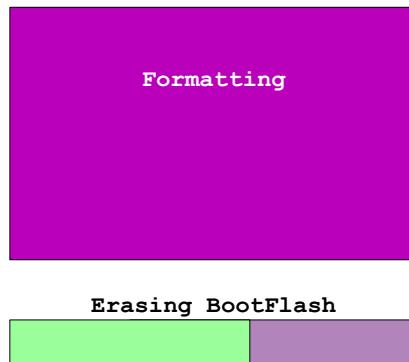
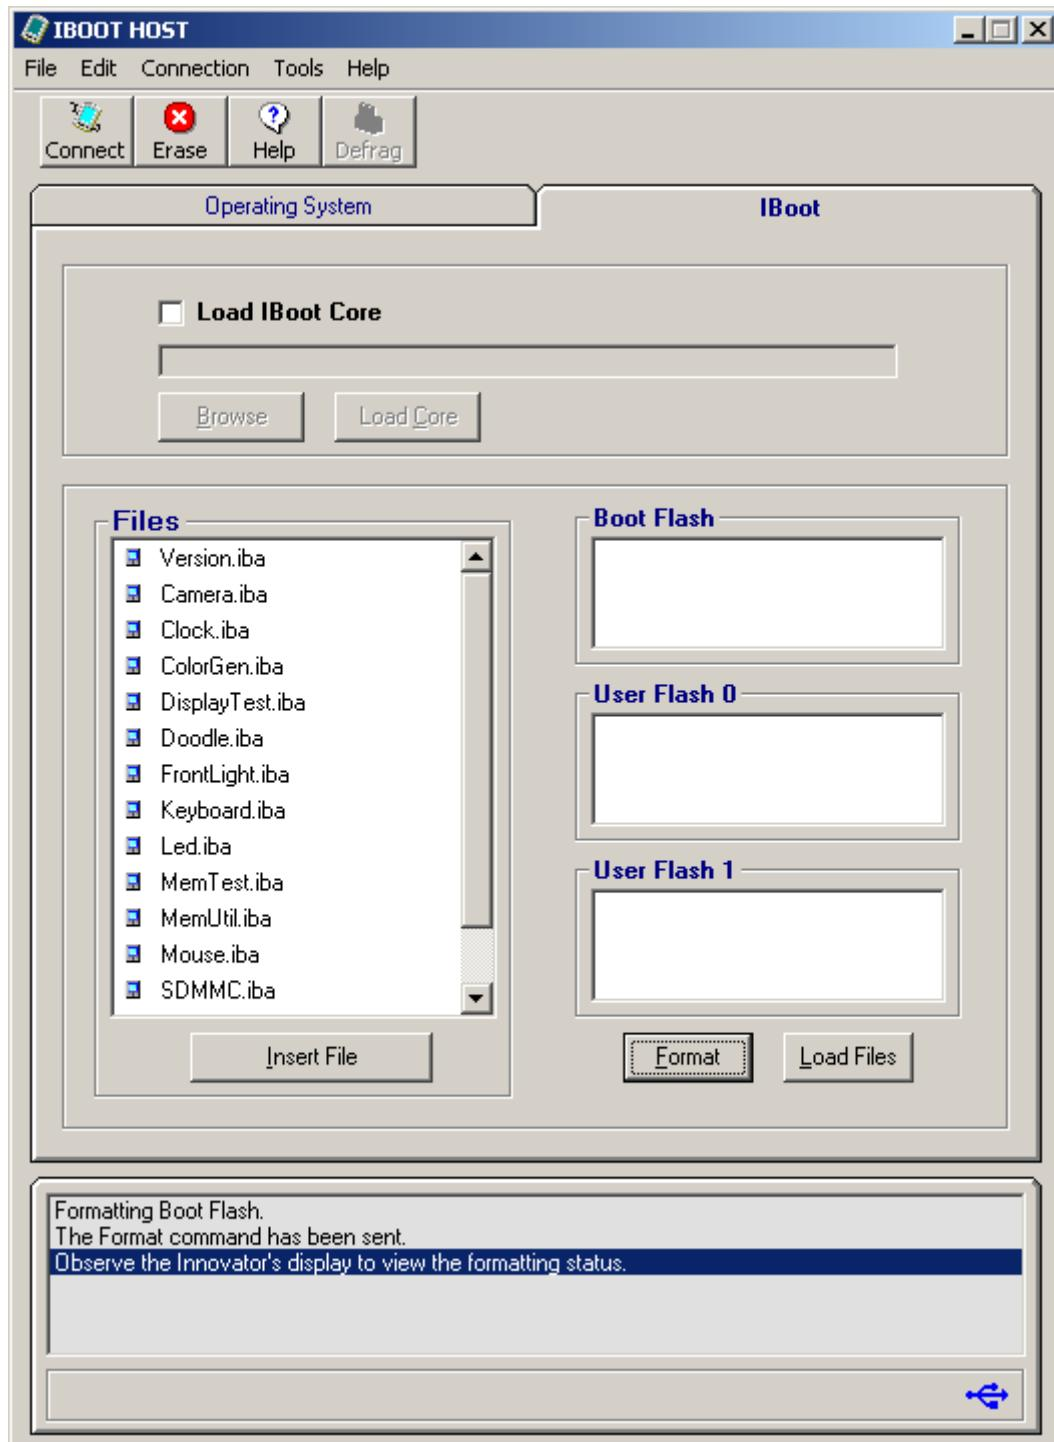

Figure 132. Innovator Module Formatting Status
Figure 133. IBoot Host Command Acknowledgment
Step 12: An acknowledgment to the command sent to the Innovator is displayed in the IBoot Host Status window (see Figure 133). The Innovator Module will display the status of the formatting process taking place on it (Figure 132).